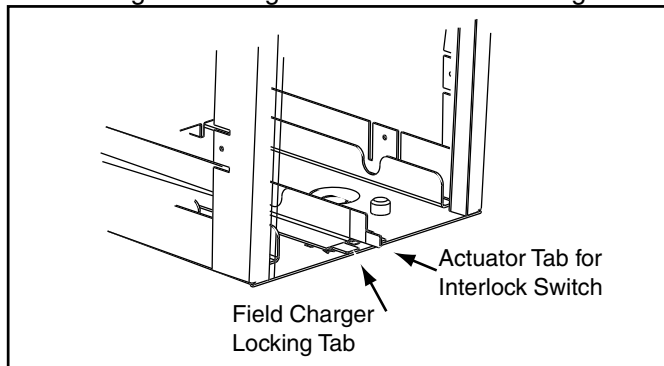

Figure 16 Locking Tab
10. Reinstall the FIELD CHARGER and lock into place by bending one locking tab on the cabinet. See Figure 16.
- Reinstall the FIELD CHARGER and lock into place by bending one locking tab on the cabinet. See Figure 16.